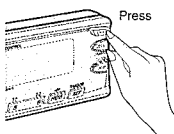

Fig. 4
- Press [OPEN]. The removable face plate will be opened. (⇒ Fig. 4)